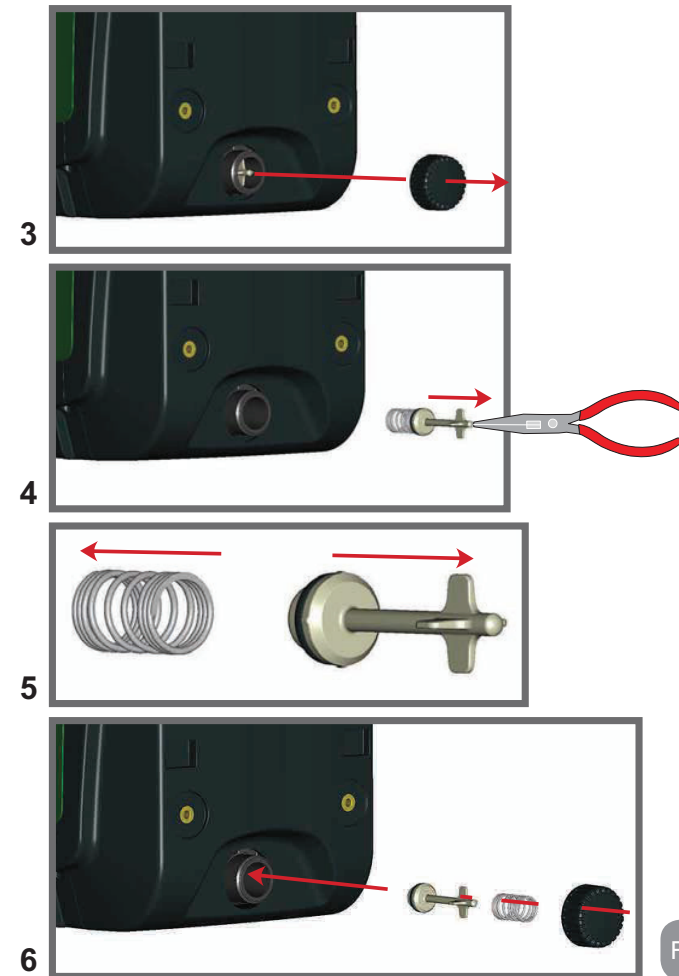

Figure 18
- 3 - remove the drainage cap anyway, taking care not to drop the O-ring (Fig.18);